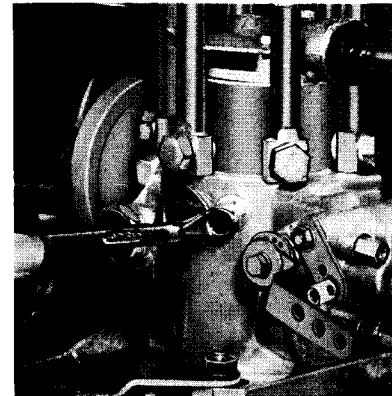

Fig. 9
2. Slacken vent valve fitted on one of the two hydraulic head locking screws (see fig. 9). Unscrew vent plug on top of fuel filter where fitted.